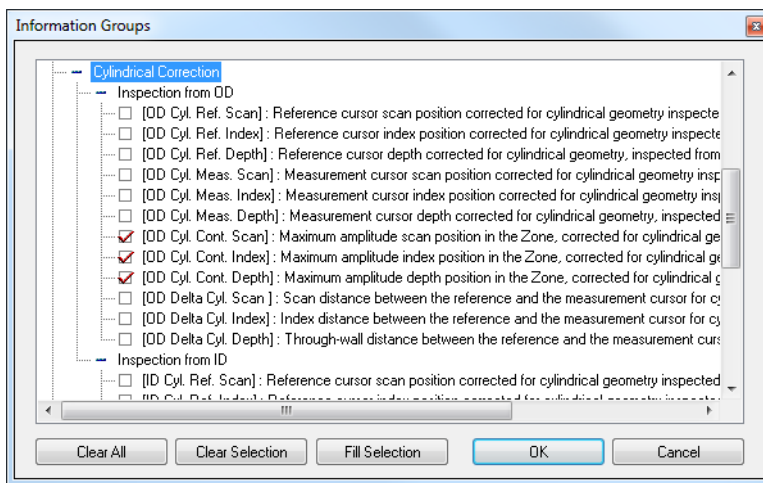

Figure 7-67 Selection of OD-related parameters
- Make sure that at least the reference (red) cursor is present in the VC-Side (B) view before activating the cylindrical correction.
- In the VC-Side (B) view, select the applicable information fields (either OD- or ID-related) as follows:
- Click in the VC-Side (B) view to make the active view.
- d) Double-click **Group 3** and then **Cylindrical correction**. See Figure 7-67 on page 408.